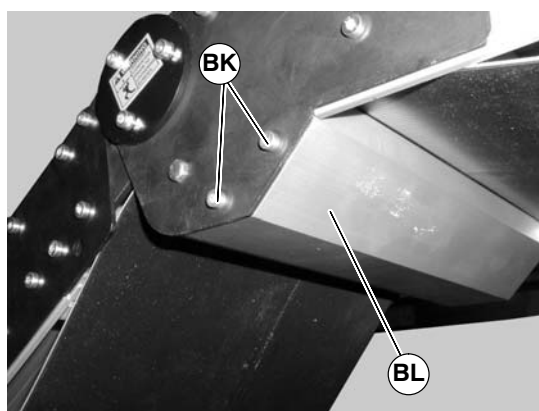

Figure 77
1. Remove screws (BK of Figure 77) on both sides of knuckle and remove guard (BL).